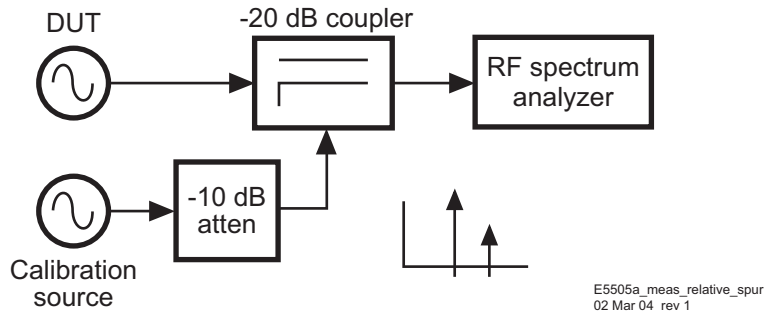

Figure 235 Measuring relative spur level
- 3 Measure the carrier-to-single-sided-spur ratio and the spur offset at the input to the AM detector with an RF spectrum analyzer. See Figure 235